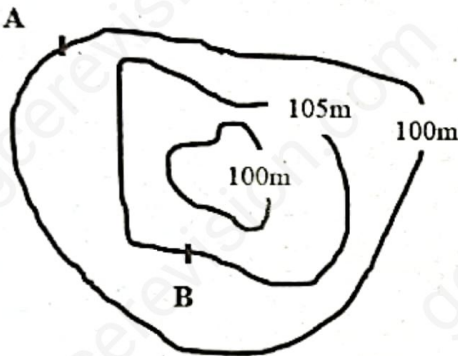

Figure 1
3. Determine if the land shown by the contours of Figure 1 below is a: